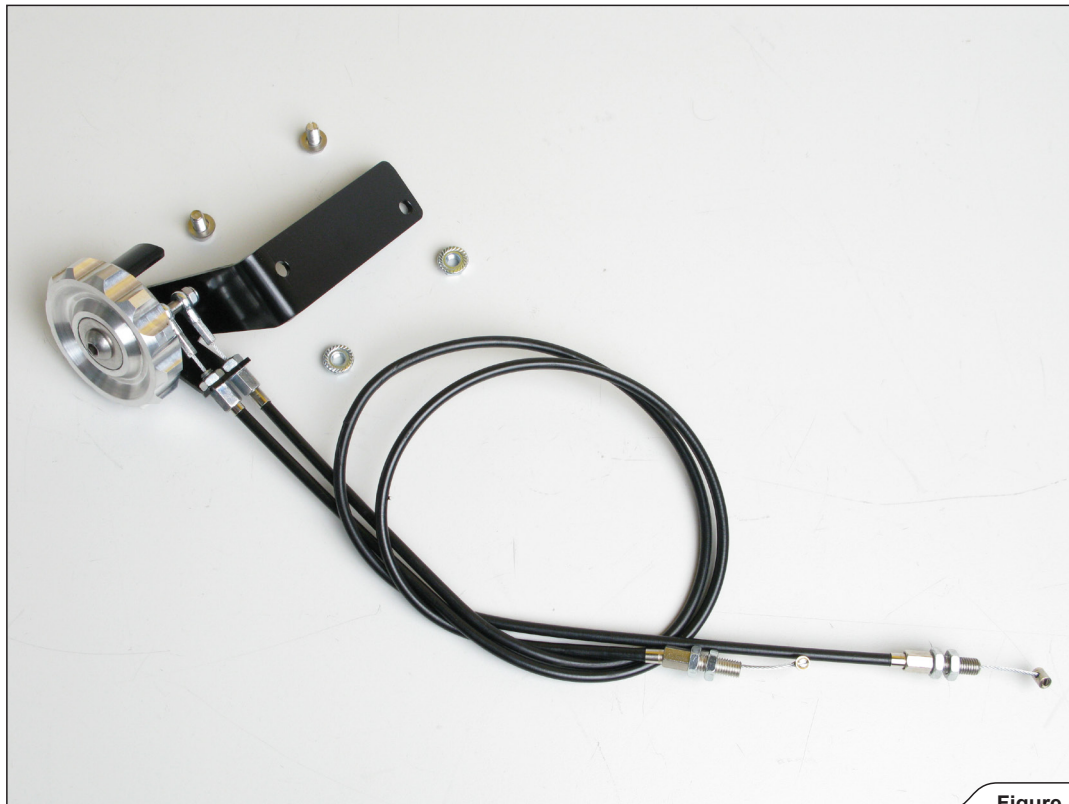

Figure 5
5. Correctly attach the valve switch assembly onto the frame, using Akrapovič bolts, nuts and existing frame holes (Figure 5, 6).